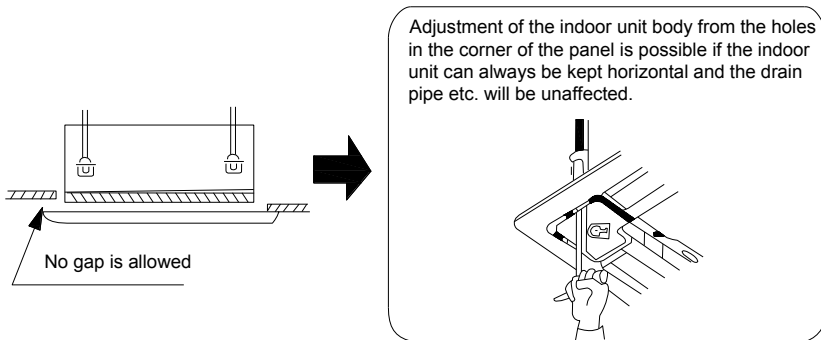

Fig. 4.33
- (3). If gap still exists between ceiling and decoration panel after tightening the screws, readjust the height of the indoor unit. (Fig. 4.33)